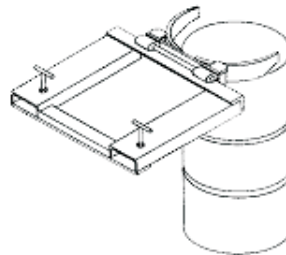

Figure 3
4. Raise and slightly tilt the drum grab into position over the top of the drum. (Figure 3)